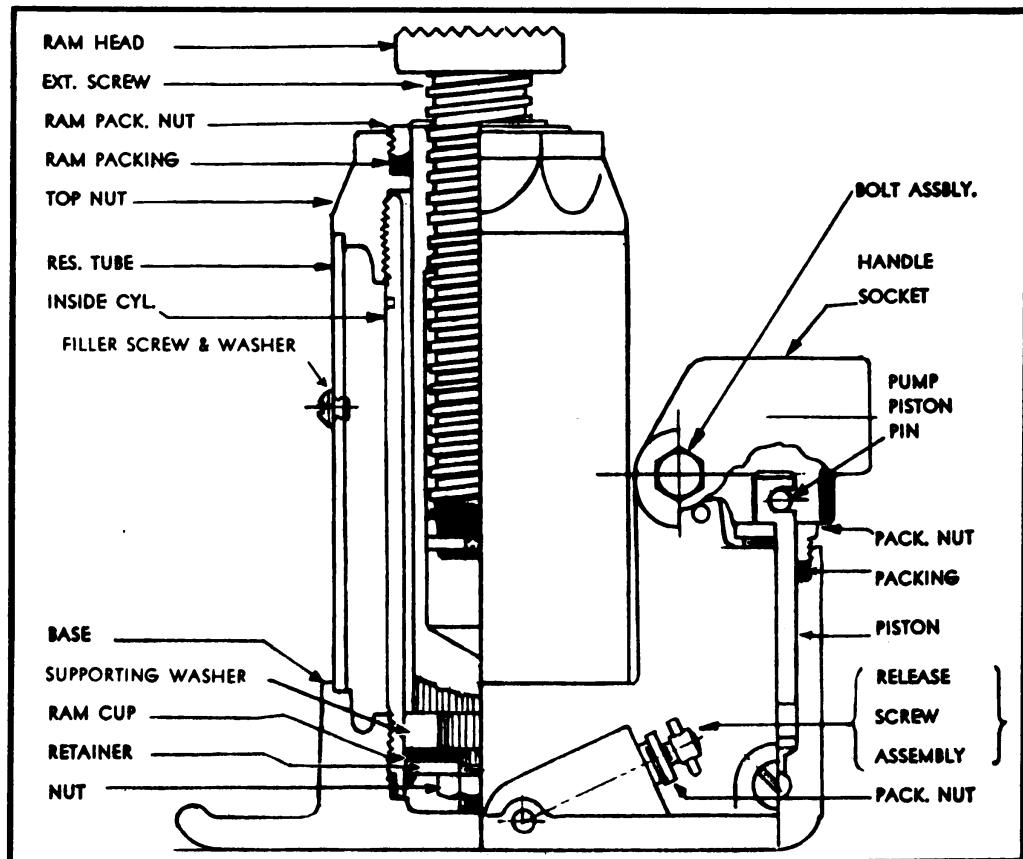

FIGURE 67. SUPPORT JACK
e. *Piston*.—(1) The piston of every jack will need replacing depending upon the amount of work it is put to.
(2) A worn piston can be detected by leakage of oil when lifting a load (Figure 67).
(3) To install a new piston first remove jack filler screw to expel excess air.
(4) Replace filler screw.